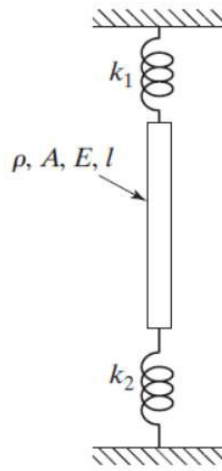

Figure 2
b) Derive the frequency equation for the longitudinal vibration of the systems shown in Figure 2